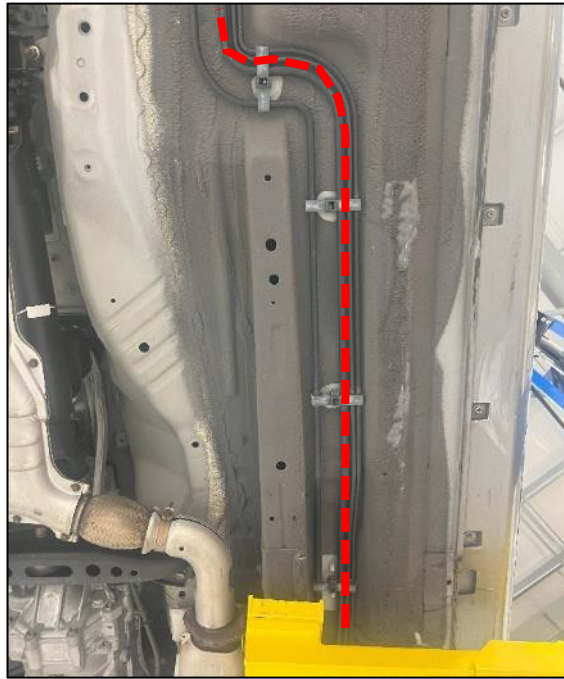

Figure 56
11. Route the rest of the Feed Line along the Factory Hard Fuel Line against the passenger side frame rail. There is an open spot on the hardline retaining clips, route the Z1 Lines in that spot. The Retaining Clips may need to be slightly trimmed to fit the larger Fuel Line. *Figure 56.*